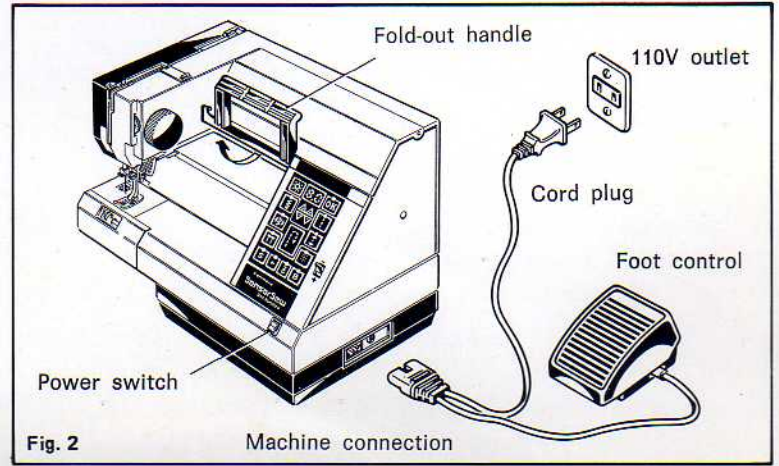

Fig. 2
Insert the foot control plug into the machine connection (14) as illustrated. Connect the cord plug into any 110-120 volt wall outlet as Shown in Fig. 2.